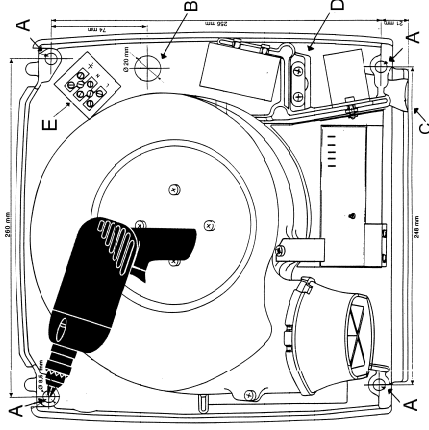

Fig. 1
- 1 Attach the template (Fig. 1) to the wall with tape ensuring that it is level.
- 1 When connecting directly to the fixed installation wiring via fixed cable or terminal box in the wall behind the dryer, the cable must be fed through hole "B" (Fig. 1) in the base plate and connected to the terminal block "E". Connect by means of three leads of min. 1.5 mm² cross-section per lead, 150 mm long (7 mm of which stripped).